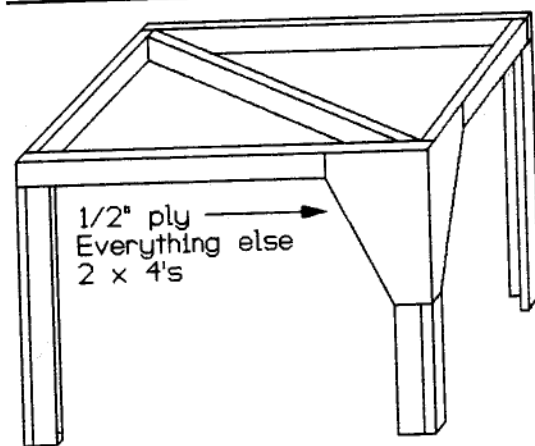

FIGURE 10-40: Simple table for building curved cells.
**CURVED TABLE.** An important part of building curved cells is the table upon which you assemble the panels. While it need not be complex, it must be strong. Wooden two by four construction works fine for the basic frame and legs. For simplicity, I've shown only the basic framework in Fig. 10-40. Across this, you will attach a curved top.